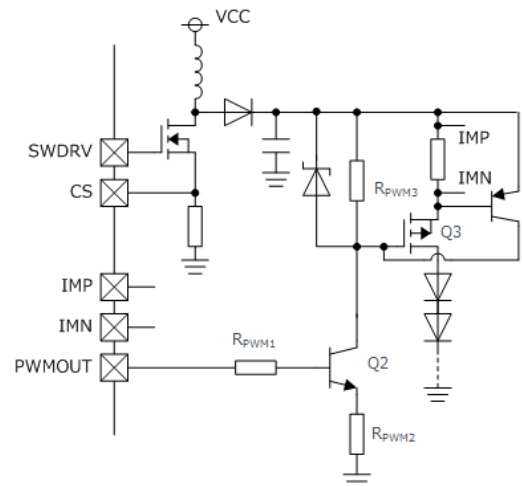

Figure 22. LED Anode Ground Fault Protection Attaching Externally Circuitry
- ① UVLO is cancelled when $V_{CC} > 4.25\text{ V}$ (Typ).
- ② IMP-IMN terminal voltage rises to become 200 mV.
- ③ Switching Duty gradually expands and is stabilized at IMP-IMN of 200 mV.
- ④ Output voltage is stabilized.
- ⑤ LED Anode-GND short-circuits.
- ⑥ It becomes $IMP-IMN \geq 0.3\text{ V}$ (Typ) and performs output Short circuit detection (SCP) and outputs SWDRV / PWMOUT = Low. Discharges an SS terminal and the FAIL terminal changes into High \Rightarrow Low.
- ⑦ When SCP is detected, capacitor connected to TDISC will be charged ($11\ \mu\text{A}$ (Typ)) until V_{TDISC} becomes 1.0 V (Typ).
- ⑧ Once SCP detection is released at $V_{TDISC} \geq 1.0\text{ V}$ (Typ), capacitor connected to TDISC starts to discharge, and SS charging, SWDRV / PWMOUT operate normally.
- ⑨ If SCP condition $V_{TDISC} \geq 0.3\text{ V}$ (Typ) is fulfilled restarts from condition ⑥ operates normally if SCP condition is not fulfilled.
Operation described above is performed in the LED anode ground short fault. However, even if SCP is detected by the potential difference of IMP pin and the IMN pin, there is delay time of internal circuit after detection and require time before PchMOS is off. Therefore allowable current of PchMOS may be exceeded transiently. (It may be exceeded in ⑧ of the timing mentioned above.) Therefore, like Figure 22, PMOS can be turned off on an expressway by adding PNP Tr externally.